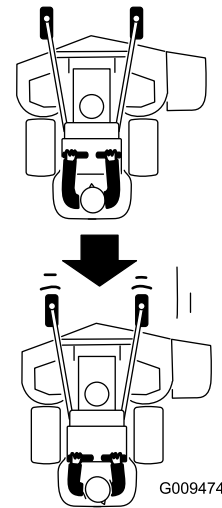

Figure 26
2. Slowly pull the motion-control levers rearward (Figure 26).